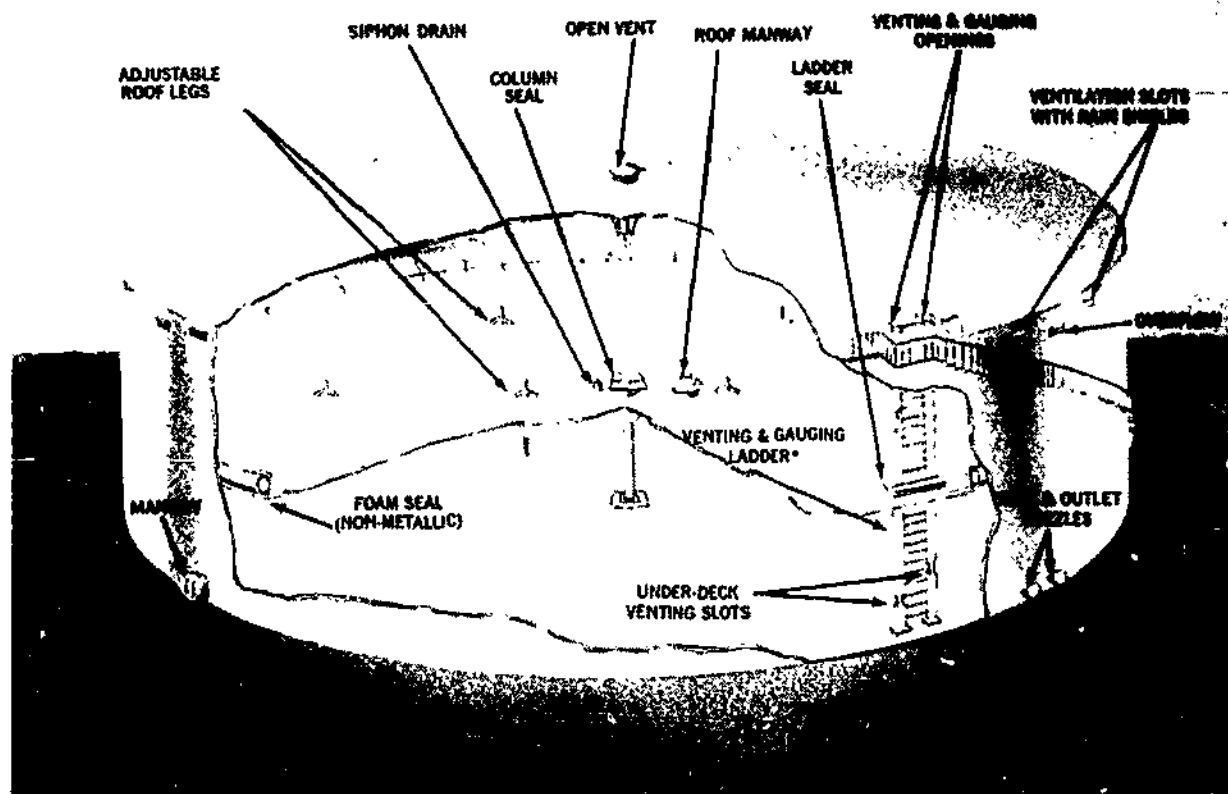

Figure 12-38. Hard Top Floating Roof
**Hard Top Floater** Hard top floating roofs designed to be constructed inside existing tanks with conventional roofs, are common in the petroleum and chemical industry (Figure 12-38). The construction is all-welded and vapour-tight, which, in combination with seals of polyurethane or similar material, effectively prevents vapour loss.